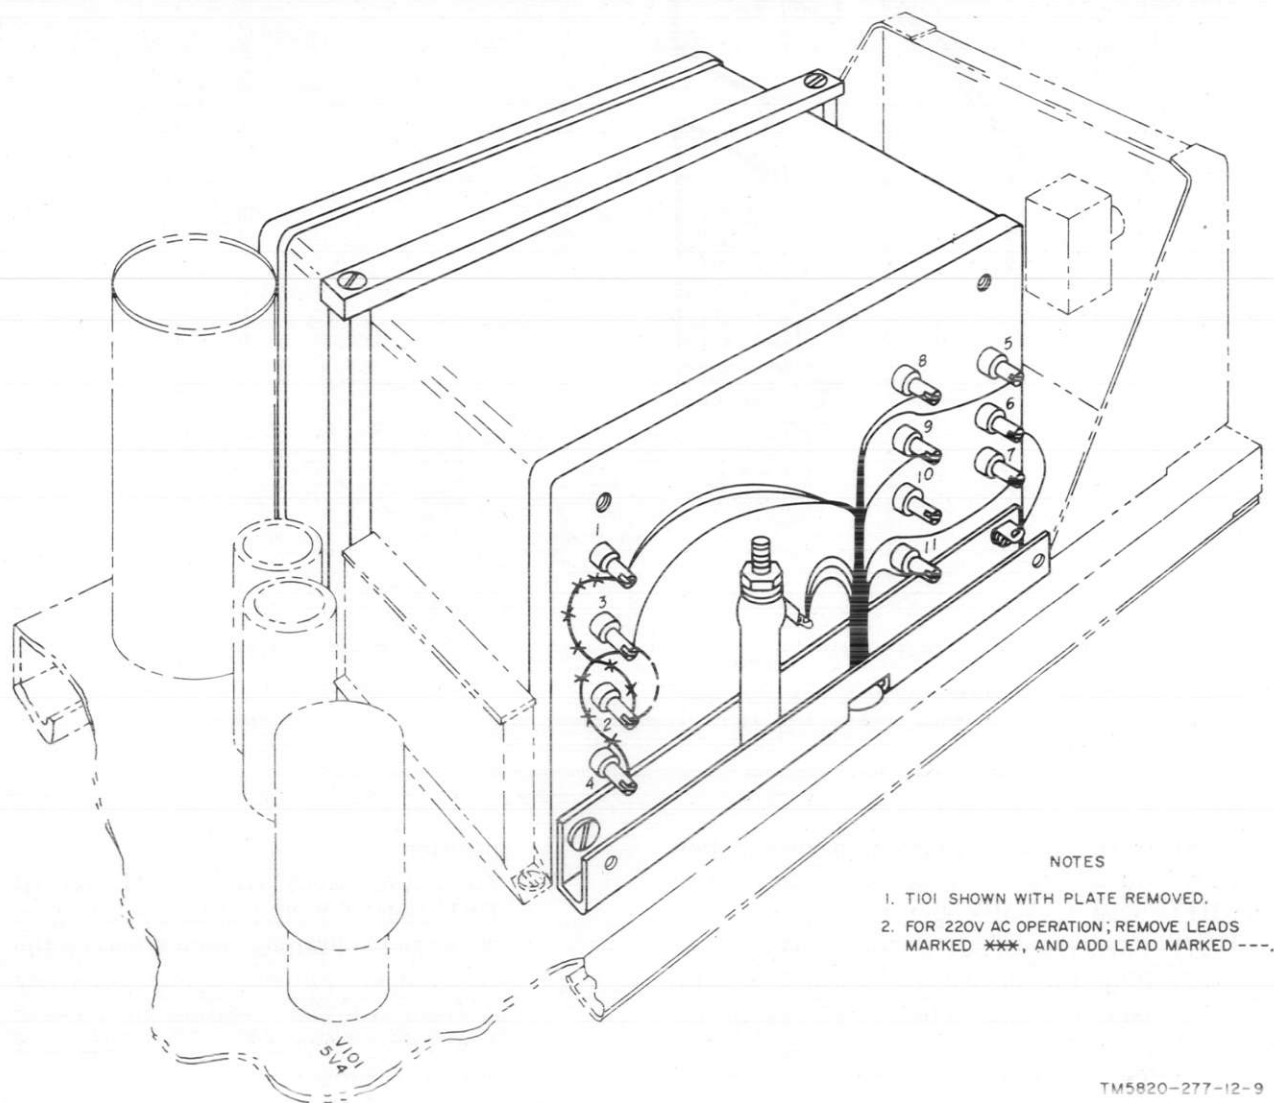

Figure 8. Power supply transformer, input voltage wiring modifications.
c. Remove the jumper wires between terminals 1 and 2 and between terminals 3 and 4. Add a jumper wire between terminals 2 and 3, as shown in figure 8.